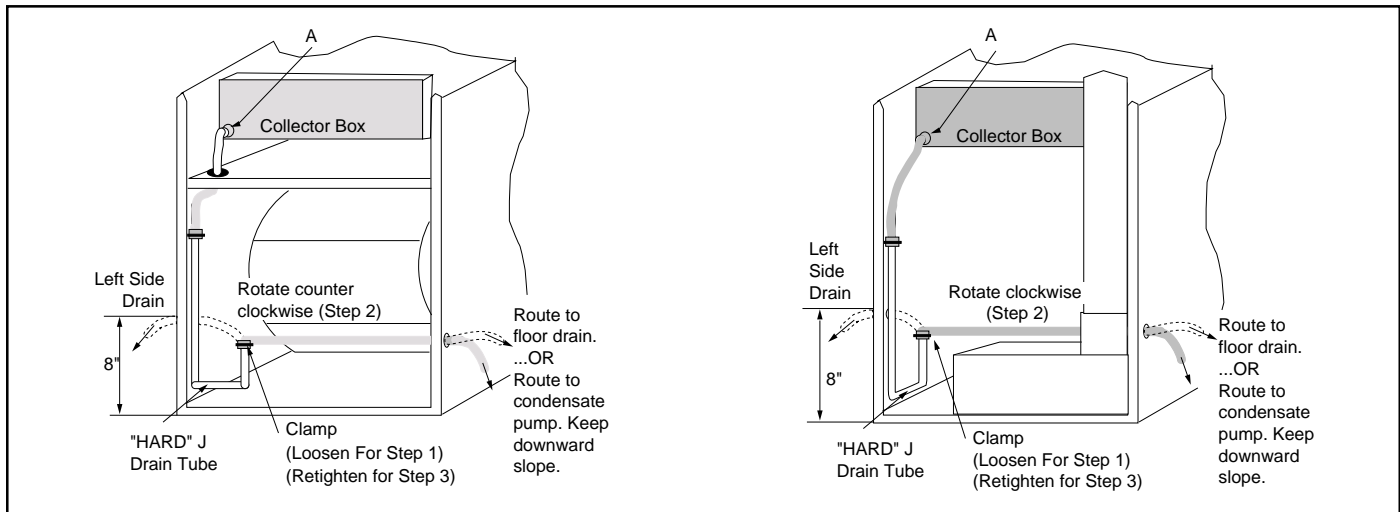

Figure 21. Furnace with Condensate Drain Trap Assembly
The condensate drainage system is internal to the furnace. The drain may exit either the left or right side of the furnace cabinet. For a right side drain, simply extend the tubing out of the 7/8" hole in the cabinet (See Figure 21).
1. Loosen the clamp on the soft exit tube (see Figure 21.)
The condensate should drain from the plastic collector box (location A in Figure 21) as droplets or a small stream. If you notice the furnace has operated for more than 5 minutes without draining or the red status light on the control board is pulsing a 2-blink code follow the steps below.
1. Remove the collector box soft tube at location A in Figure 21 and insure the exit from the collector box is clear of any debris or obstructions.